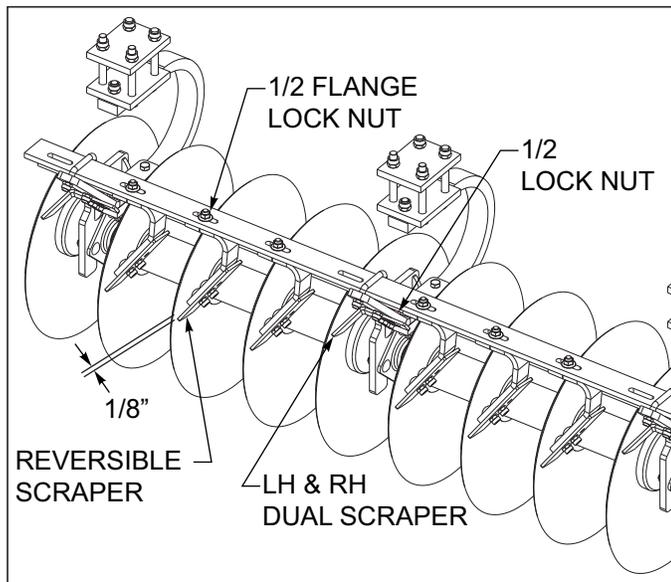

Figure 4-10: Scraper Adjustment
1. Rigid scrapers should be set initially as close to the disc blade as possible without rubbing (approximately 1/8") See Figure 4-10. A slotted hole at the top of each scraper is provided for individual adjustment. Loosen 1/2 flange lock nut for reversible scraper or 1/2 lock nuts for dual scrapers to slide scrapers to get the 1/8" spacing from disc blade. Scraper arms are made of spring steel. In wet conditions, the scraper may be set against the disc blade and can function as a spring-loaded scraper.